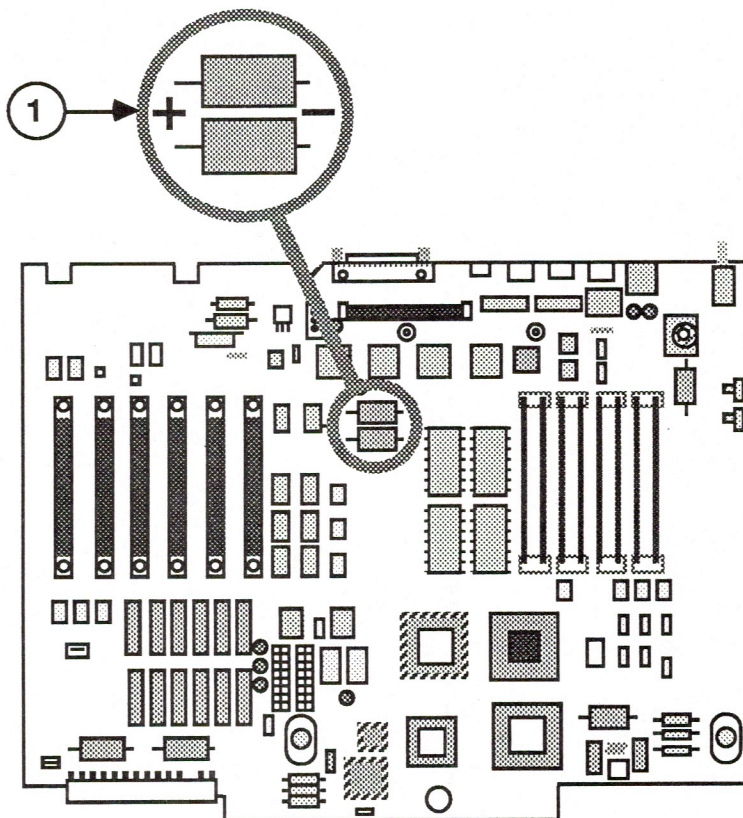

FIGURE 3
3. Touch and hold the **positive probe** of the voltmeter to the **positive side** of one of the batteries (Figure 3, #1).